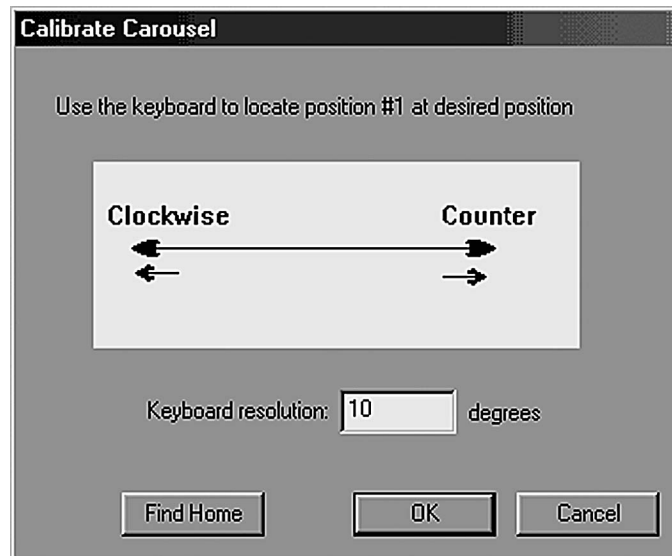

Figure 14: Calibrate Carousel window
4. Click on Instruments Carousel > Calibration. The carousel will initialize, and a Calibrate Carousel window will appear (figure 14).
5. Use the left and right arrow keys to rotate the carousel. Each keystroke will move the platter the number of degrees shown in the window (refer to figure 14). Change that resolution as needed.